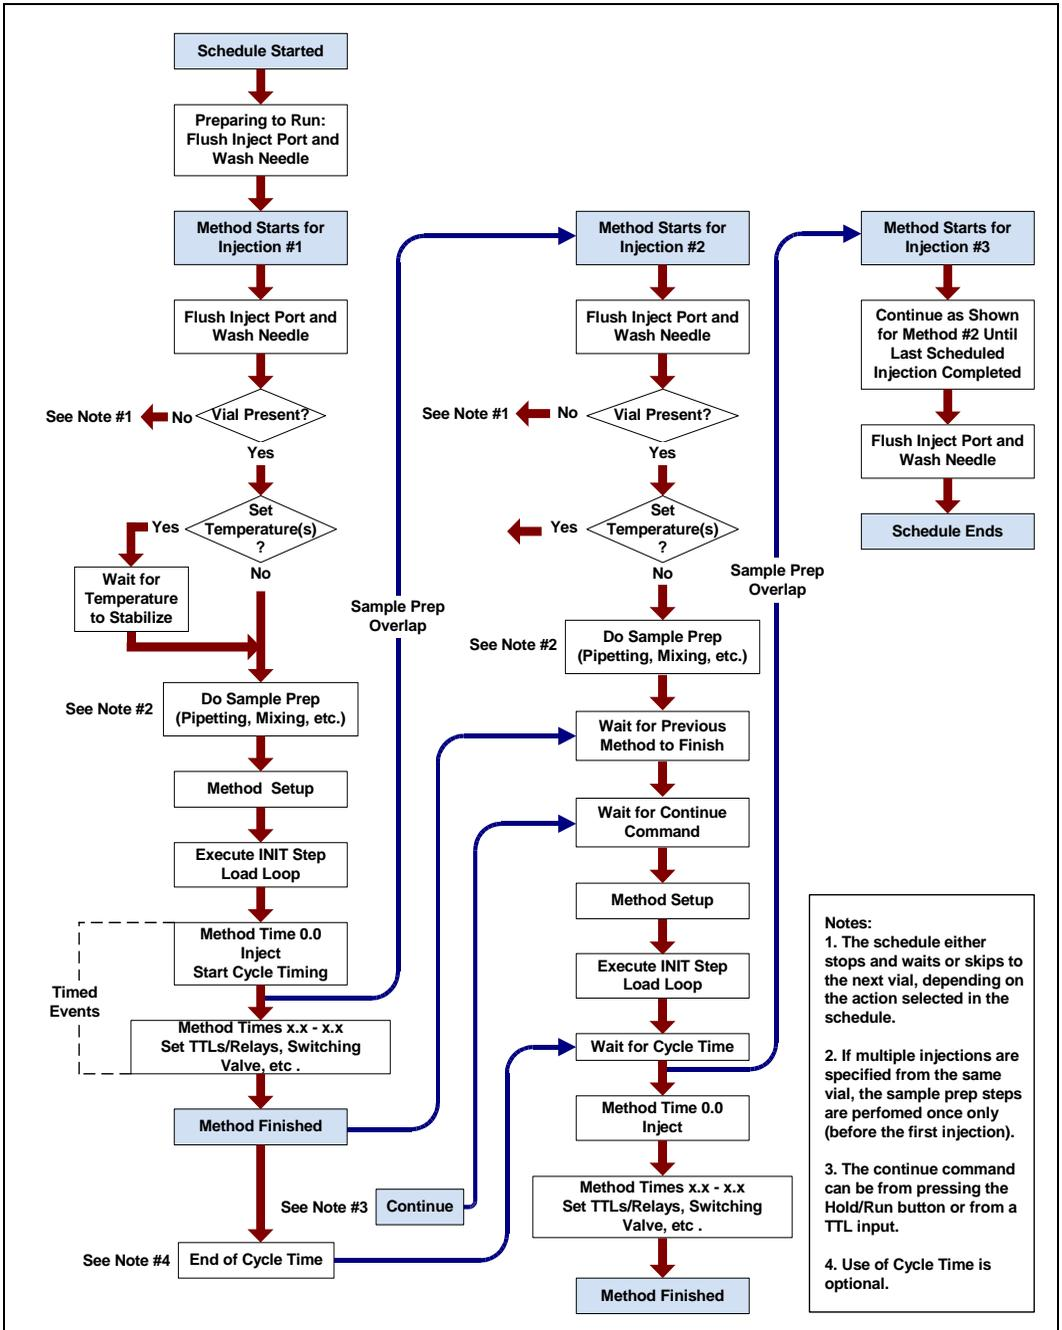

Figure 2-19. Schedule Run Flow of Operation (Wait Enabled)
- Figure 2-19 shows the flow of events during a schedule when the wait operation is enabled.